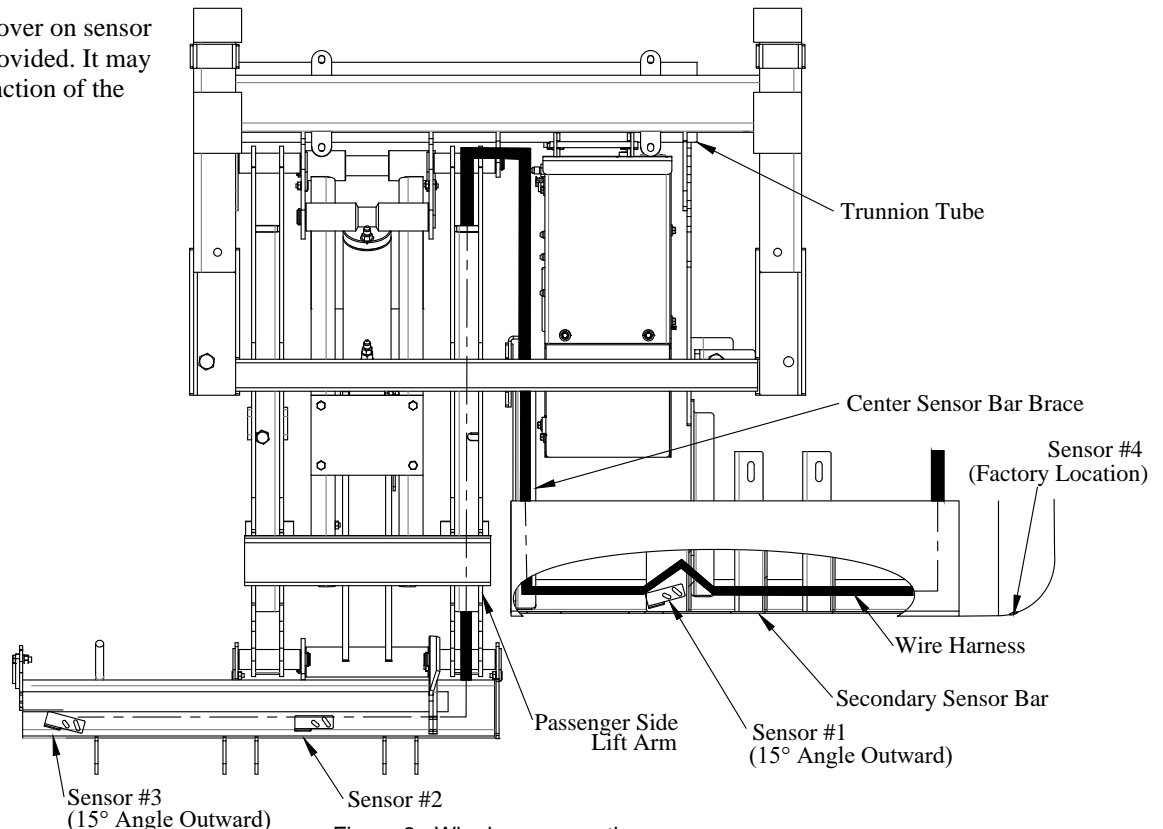

Figure 8: Wire harness routing.
3. **Route** new sensor wire harness along the center sensor bar brace (Figure 8).
4. **Route** new sensor wire harness over the top and down the inside of the passenger side lift arm, following limit switch wire harness (Figure 8).
5. **Route** new sensor wire harness into the back of the sensor bar (Figure 8).
11. **Adjust** sensor brackets so sensors are positioned as follows (Figure 8).